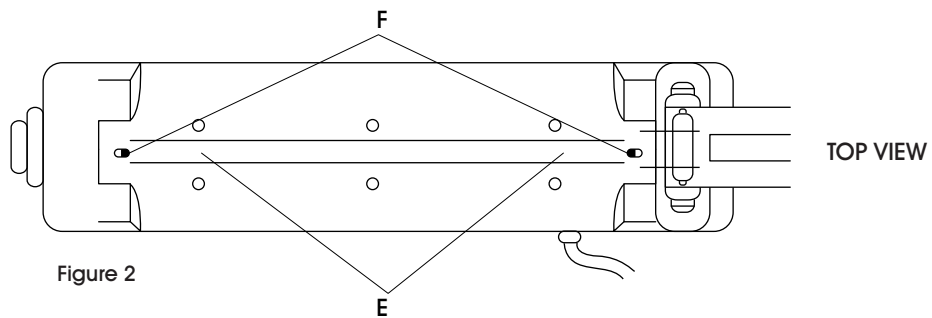

Figure 2
3. After removal of metal cover plates, teflon tapes and element, clean sealing surface (E) with cleaner until free of glue and debris. Adhesive remover is recommended. (See Figure 2)
4. Peel off backing of adhesive teflon tape. Apply evenly onto sealer. Excess tape should extend all the way to the terminal posts (F). If the element touches any metal, the sealer will short out. (See Figure 2)